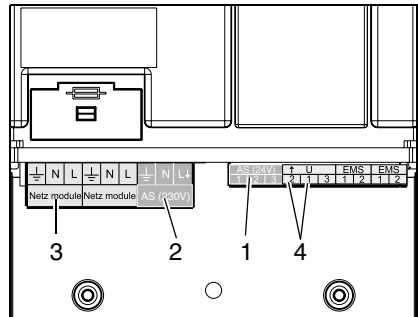

Fig. 2 Connections
### a) AS 24V connection (fig. 2, pos. 1)
### b) AS 230V connection (fig. 2, pos. 2)